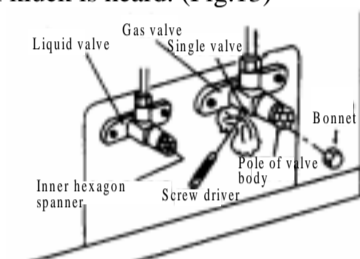

Fig.14
- Fully open liquid and gas valve. (Fig.14)